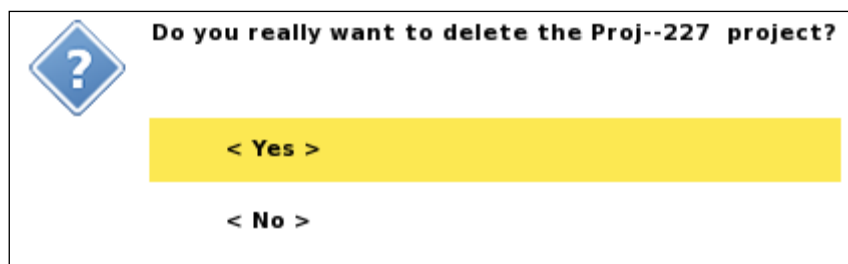

Figure 17 *Confirm Project Delete* dialog
- **Delete:** A confirmation dialog is shown and the *Project* will be deleted if the user confirms the deletion (Figure 17)